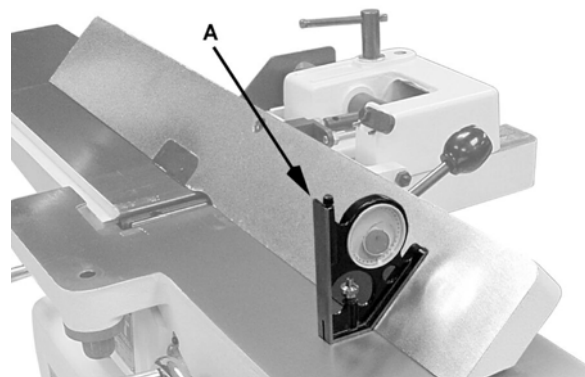

Figure 16
1. Loosen the lock handle (A). Move the stop plate (D) out of the way and position the fence at the 135° angle. Make sure the fence sits against the stop bolt. (E).
2. Tighten the lock handle (A)
3. Place an angle measuring device on the table and against the fence to confirm a 135° setting (A. Fig. 16).
4. To adjust, loosen the lock nut (F), turn the stop bolt (E) until a 135° angle is obtained.
5. Tighten the lock nut (F).